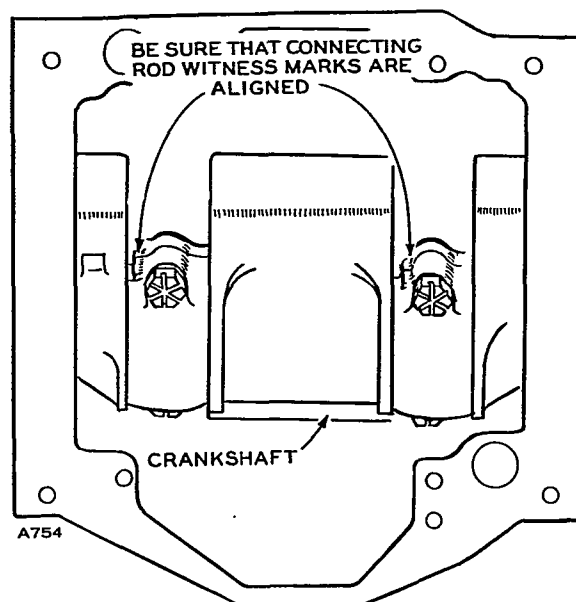

FIGURE 57. CONNECTING ROD CAP
5. Position each connecting rod on crankshaft, oil the journal, and install its rod cap with bearing half. When installing rod cap, position so raised witness mark on forging matches mark on connecting rod. See Figure 57.